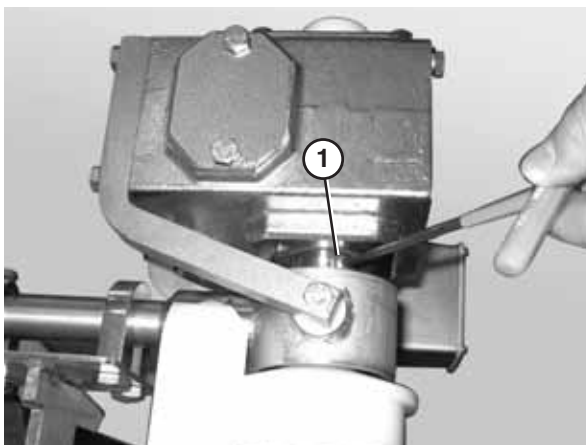

Figure 69
1. Loosen the button head screws (Figure 69, item 1) that connect the gearmotor to the drive spindle.